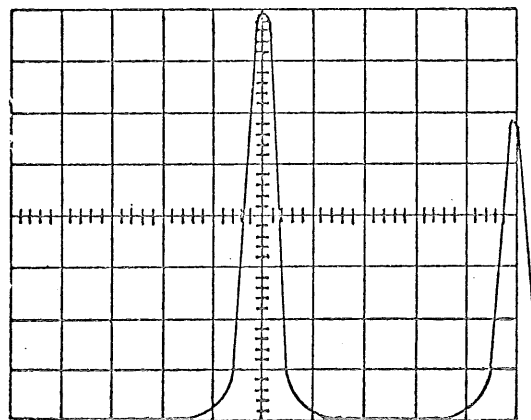

Fig 1. 60 MC TRAP OUT
- CHECK - for no spurious or attenuated response at right side of center freq. See Fig 1 and 2.